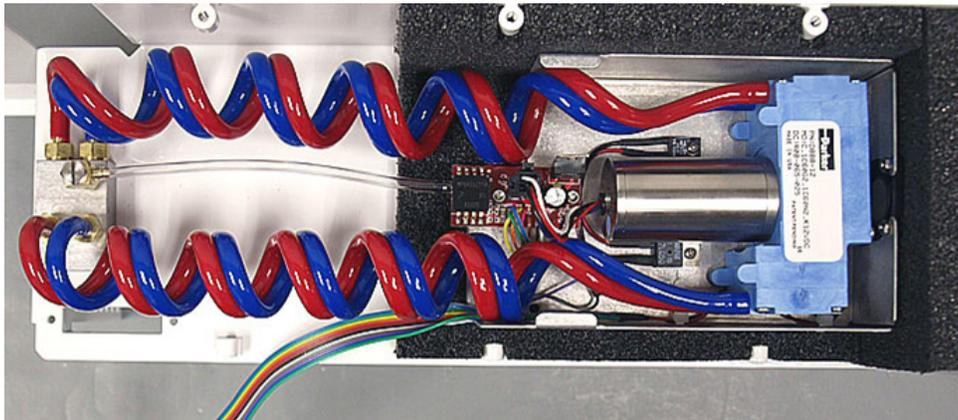

FIGURE J-3. AP200 pump
3. Remove the cover to expose the pump (FIGURE J-3).